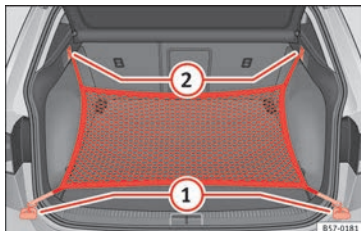

Fig. 168 In the luggage compartment: rings ① and hooks ② for attaching the net bag.
- Secure the short net hooks to the fastening rings » Fig. 168 ① » ⚠. The bag zip should be facing upwards.
- Secure the straps in the bag hooks ②.